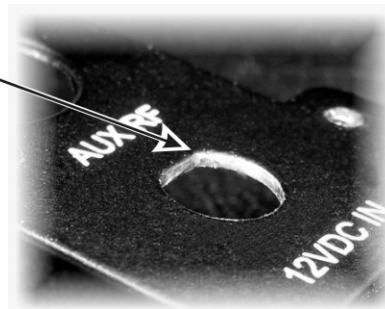

Figure 19. Removing the Powder Coating from the AUX RF Connector Hole.
- The highly scratch-resistant powder coating on the rear panel may interfere with the fit of the BNC connector through the hole. Remove the coating around the edge of the hole using a hobby knife or other sharp tool (see Figure 19). Note that the hole is flat at the top. That is intentional.